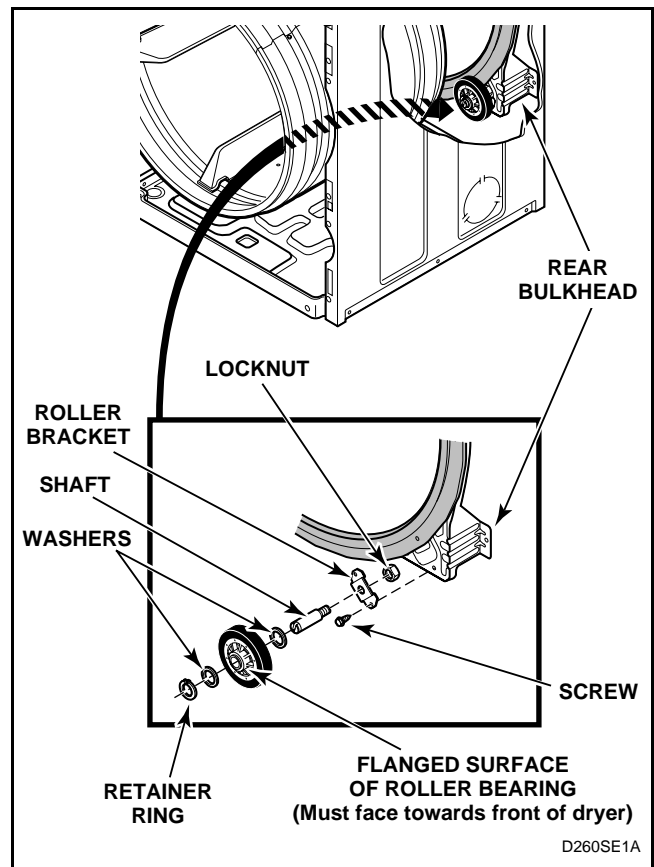

Figure 31
- Pull cylinder forward allowing rear of cylinder to drop down exposing rollers. See *Figure 31*.
- See *Figure 31* for removal of roller from bulkhead.